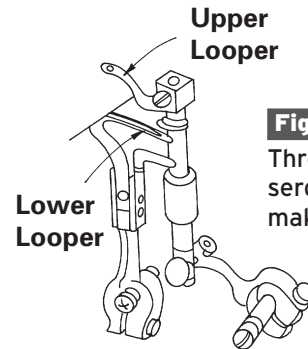

Fig. 16-7
- 8. **Loopers.** Arms that carry thread to form the overlock stitch. Serger stitches are formed with an upper and a lower looper. (Fig. 16-7)